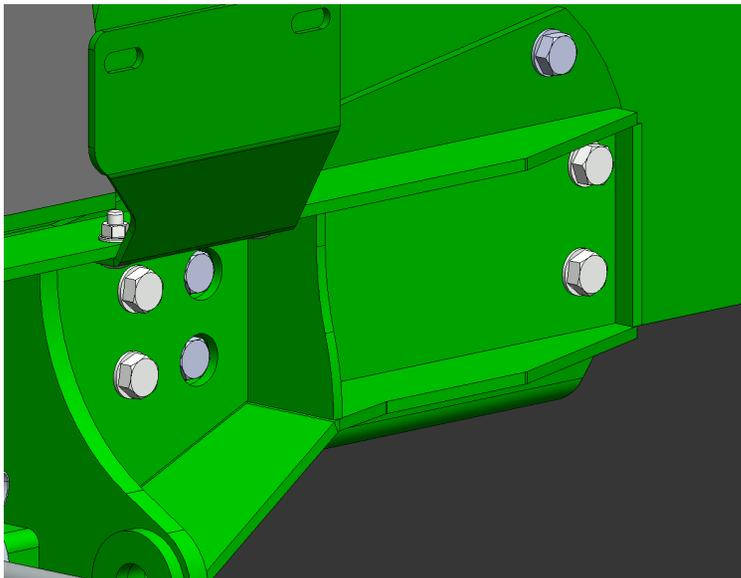

Figure 4
4. Attach mounting bracket LANSR054 (drivers side) and LANSR055 (passenger side) through the four open holes directly in front of the front tire (Shown in Figure 4). If present, temporarily start a bolt through the front of the mount into the weight bracket. (See next page for bolt sizes.)